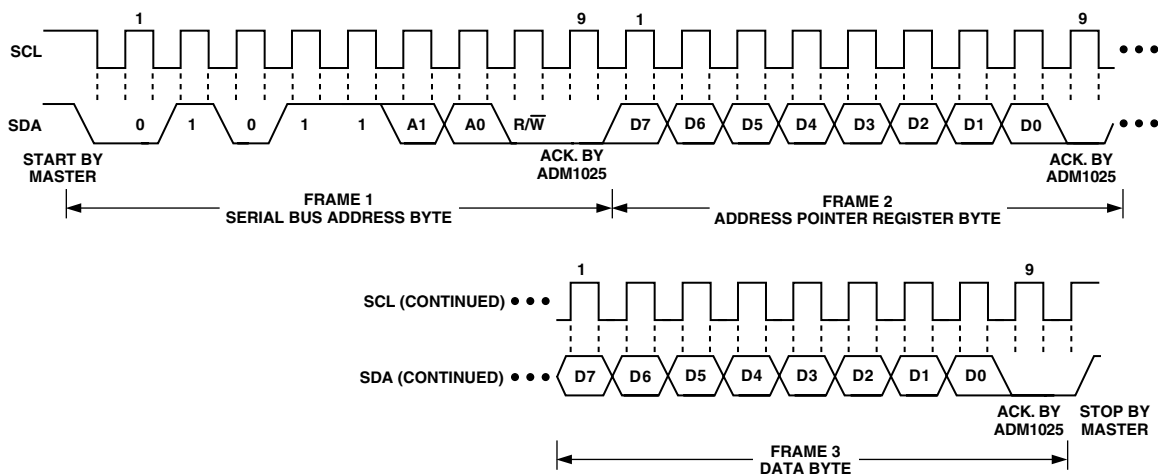

Figure 9a. Writing a Register Address to the Address Pointer Register, then Writing Data to the Selected Register
This is illustrated in Figure 9a. The device address is sent over the bus followed by  $\overline{R/W}$  set to 0. This is followed by two data bytes. The first data byte is the address of the internal data register to be written to, which is stored in the Address Pointer Register. The second data byte is the data to be written to the internal data register.
2. In Figures 9a to 9c, the serial bus address is shown as the default value 01011(A1)(A0), where A1 and A0 are set by the three-state ADD pin.